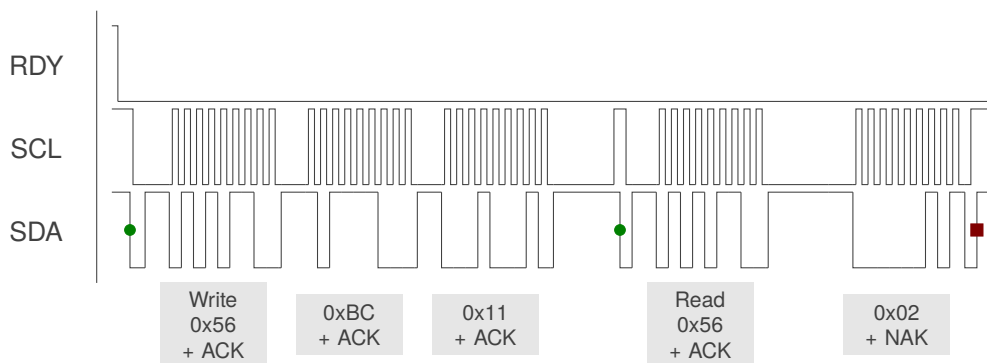

Figure 12.1: I²C Read Example - Read System Control Register 0x11BC Before Modifying
The read operation is displayed in Figure 12.1. The master device watches for the IQS9150's/IQS9151's RDY line to drop low, signalling the availability of fresh data and a window for communication. It is always best to hold off on starting I²C transactions until the RDY line goes low. The master starts communication by sending a start condition, the device address, and a write command in response to the RDY interrupt. After receiving an acknowledgement from the IQS9150/IQS9151, the master device will send two bytes that specify the register address. The device address and a read command will be sent by the master after a repeated start condition. Then, while the master acknowledges each byte, the IQS9150/IQS9151 will keep transmitting data from the requested address. The read operation ends when the master generates a stop condition and does not acknowledge the last byte received.
- > Read the System Control Register (0x11BC) as illustrated in Figure 12.1.
With the *Terminate Comms Window* setting cleared in the *Config Settings* register, a standard I²C STOP ends the current communication window. If multiple I²C transactions need to be done, then they should be strung together using repeated-start conditions instead of giving a STOP. This will allow the communication to occur in the same session. Allowing an I²C STOP to terminate the communication window is the recommended method and is illustrated in Figures 12.1 and 12.2.